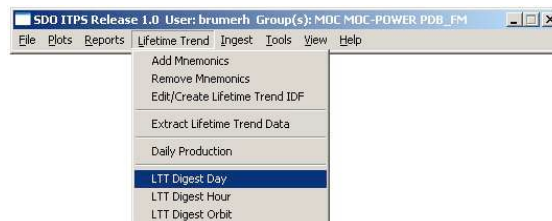

Figure 59 LTT Digest Selection
- Select one of the LTT Digest options from the ITPS main menu (see *Figure 59*).